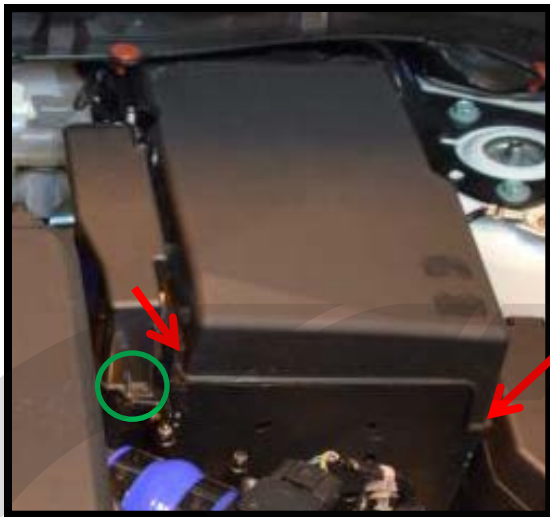

Figure 1b
- b) **Remove the battery cover by pulling the two locking tabs and lifting the lid upward and foreword at the same time.** (Red Arrows in Figure 1b)
- c) **Remove the ECU cover by pulling upward on the side closest to the air filter, and then foreword.** (Green Circle in Figure 1b)